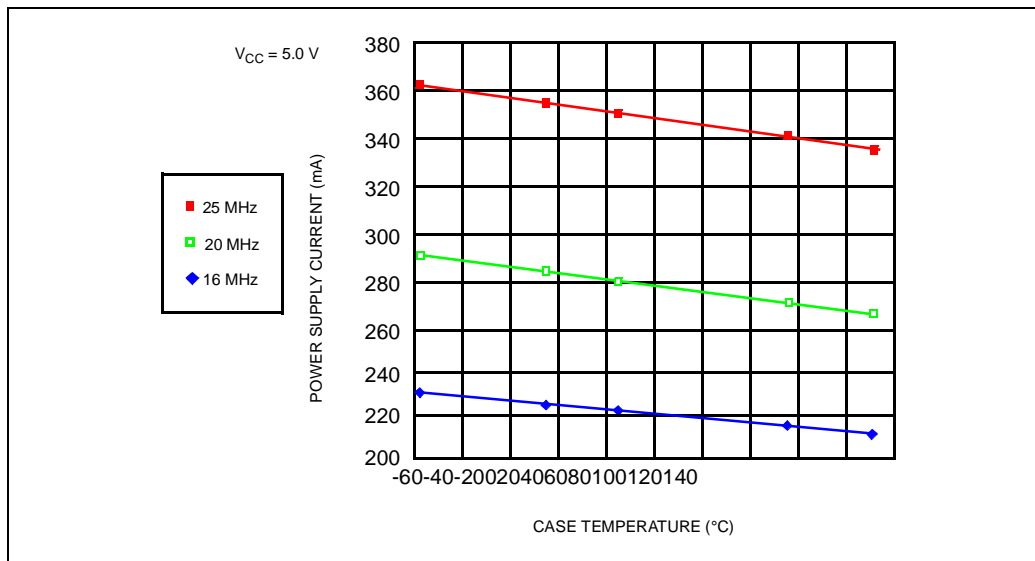
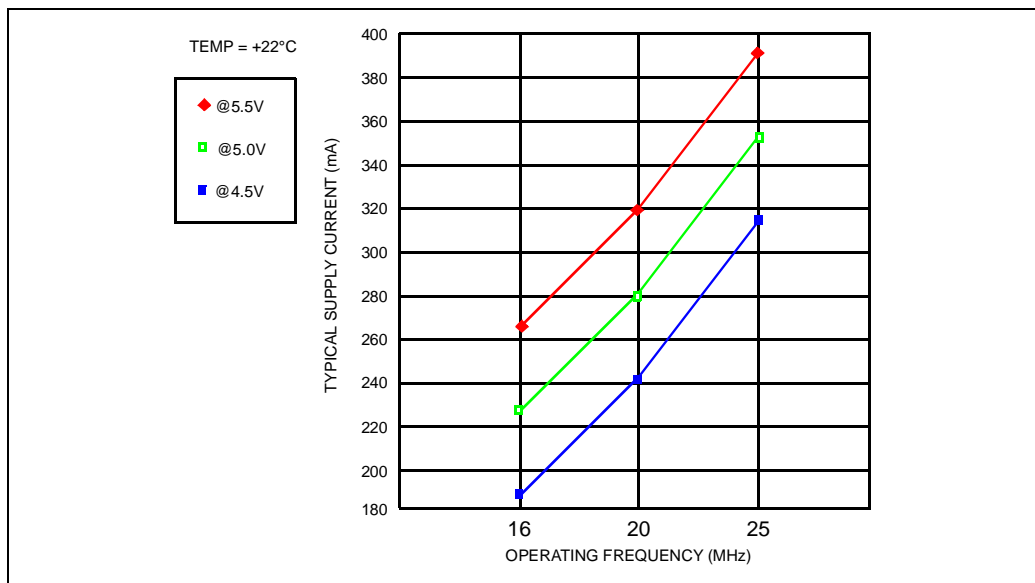
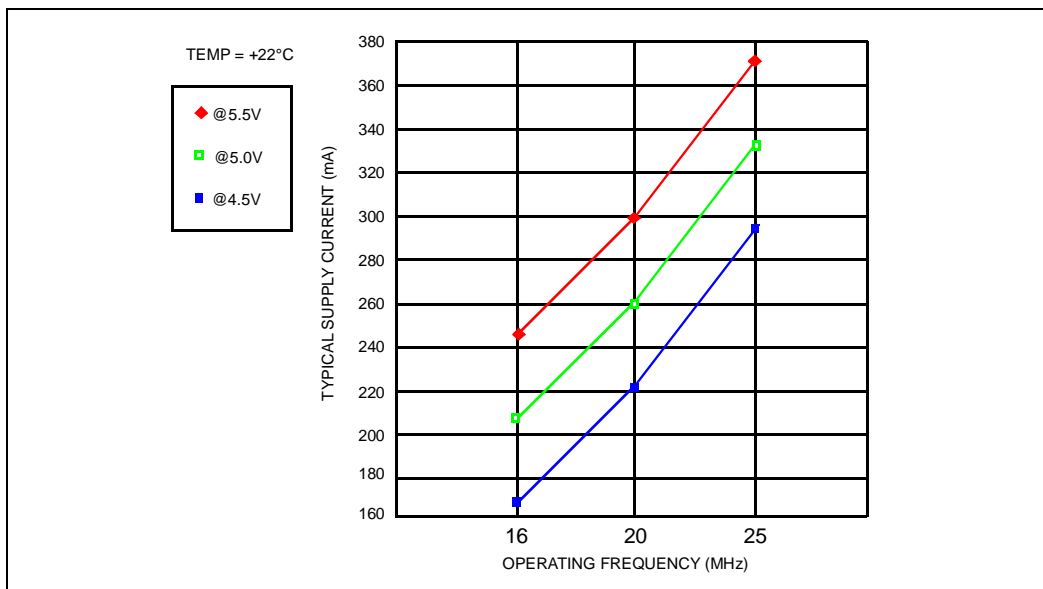

Figure 7. Typical Supply Current vs. Case Temperature
Figure 8. Typical Current vs. Frequency (Room Temp)
Figure 9. Typical Current vs. Frequency (Hot Temp)
Figure 7 shows typical supply current requirements over the operating temperature range of the processor at supply voltage ( $V_{CC}$ ) of 5 V. Figure 8 and Figure 9 show the typical power supply current ( $I_{CC}$ ) that the 80960KB requires at various operating frequencies when measured at three input voltage ( $V_{CC}$ ) levels and two temperatures.
- Measured at worst case frequency, VCC and temperature, with device operating and outputs loaded to the test conditions in Figures 12 and 13. Figure 7, Figure 8 and Figure 9 indicate typical values.